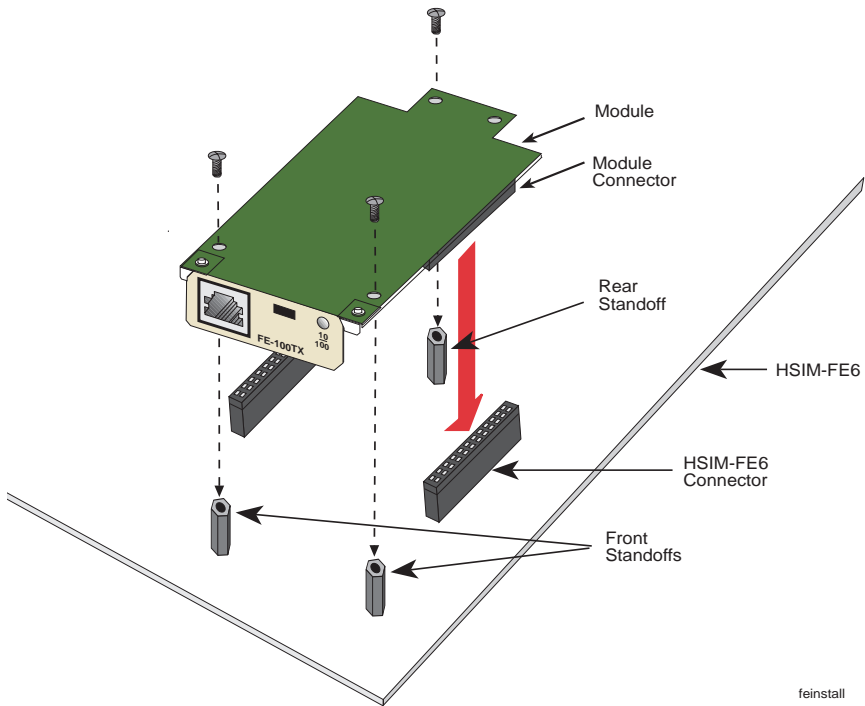

Figure 2-2 Installing the FEPIM
2. Refer to Figure 2-2. Gently pull the faceplate of the HSIM-FE6 forward to allow room for the FEPIM to be aligned over the connector.
3. Align the FEPIM connector into the HSIM-FE6 connector pins. See Figure 2-2.
5. Secure the FEPIM using the screws enclosed in the FEPIM packaging. The screw used to attach the rear of the FEPIM to the standoff is optional and not necessary for proper installation. Refer to Figure 2-2.